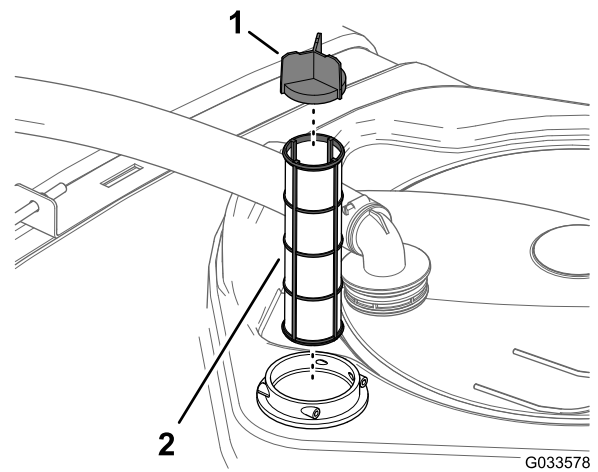

Figure 145
4. Remove the old suction filter from the filter housing in the tank (Figure 145).